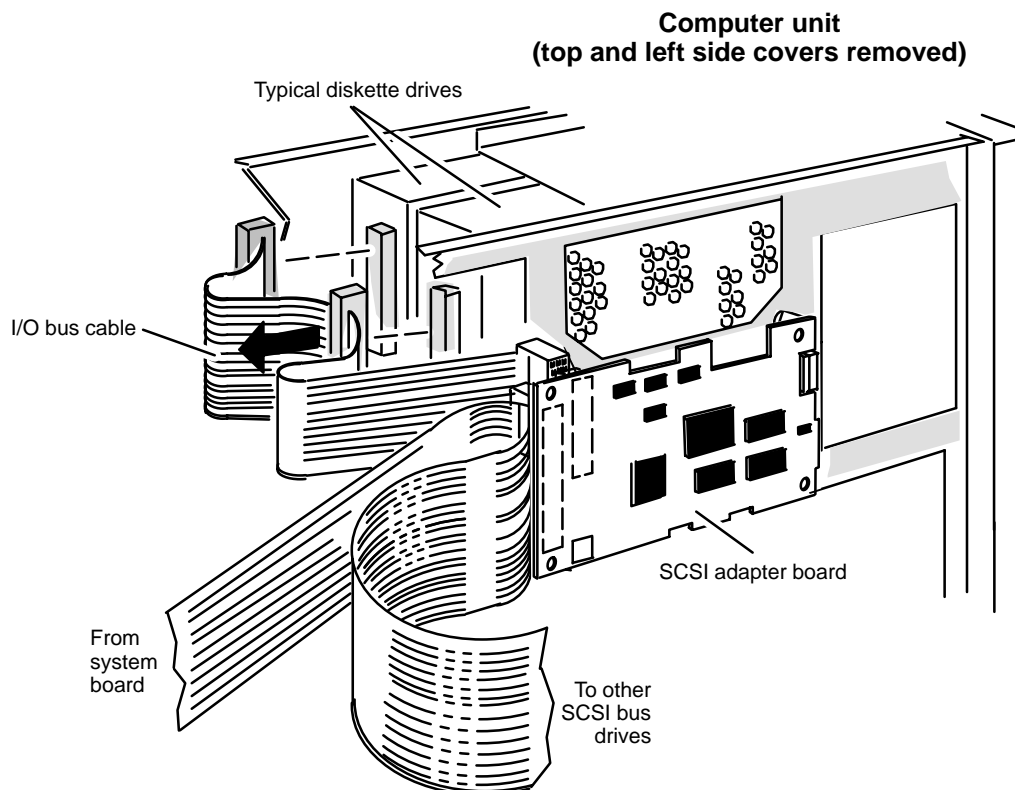

Figure 7-3 Unplugging the I/O Bus Cable from a Diskette Drive
2. If you are removing a diskette drive, unplug the I/O bus cable from the diskette drive you are removing as shown in Figure 7-3.